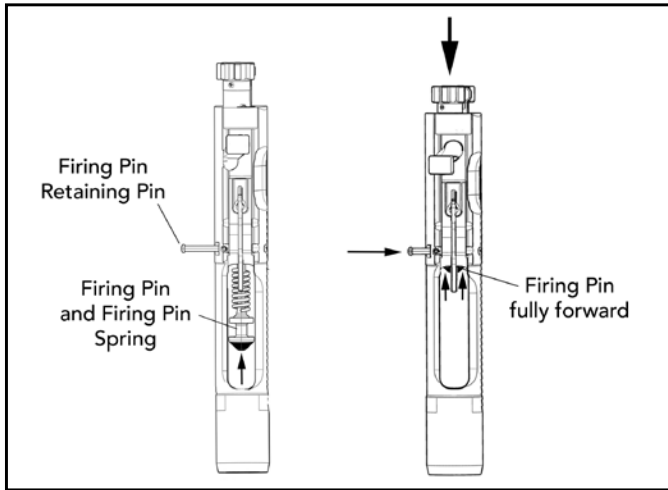

Fig. 47 – Firing Pin Retaining Pin Installation
- g. Ensure that the firing pin retaining pin is properly installed by pivoting upwards on the firing pin safety while pushing backwards on the bolt head. The firing pin should be retained inside the bolt carrier (Fig. 47).